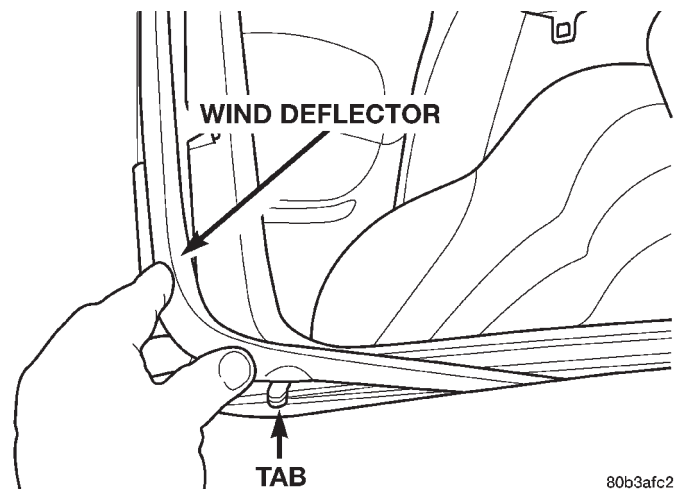

Fig. 2 Wind Deflector
- (1) Open sunroof glass panel.
- (2) Push down one corner of the wind deflector and let the other corner rise up (Fig. 2).
- (3) Push the low corner towards the opposite side of the vehicle until tab on sunshade clears the body. Then raise the corner up.
- (4) Repeat the procedure to the other corner.
- (5) Lift wind deflector to 90% of the way.
- (6) Push the attaching ends of the deflector to the rear of the vehicle to disengage the deflector.